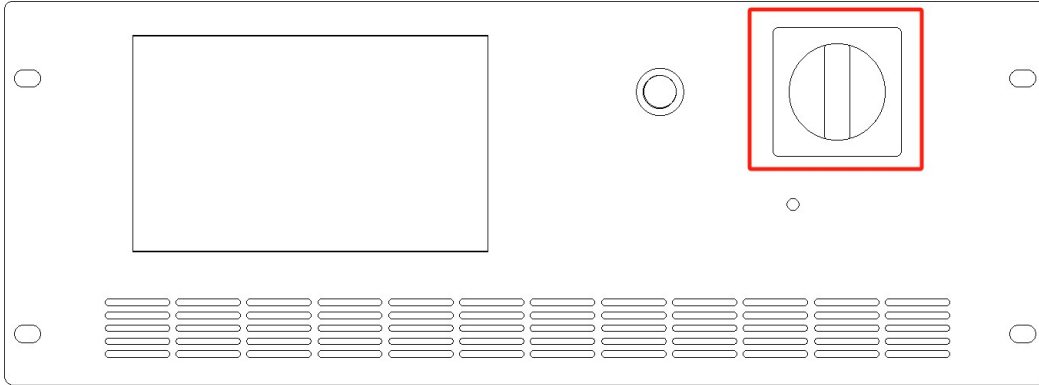

Figure 3-1-1
Step 2: Close the circuit breaker on front panel (Figure 3-1-1), the power supply will be standby.
Step 2: Open the circuit breaker on front panel (Figure 3-1-1)